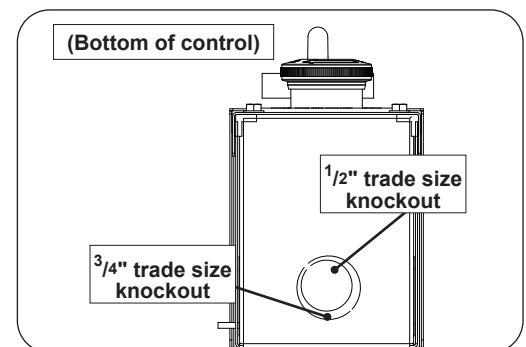

Fig. 4-3 Run electrical wiring
1. Route electrical wiring to the control as required for your installation. Use the appropriate knockouts ( $\frac{1}{2}$ " or  $\frac{3}{4}$ " trade size) to run wiring to controller. See Fig. 4-3.